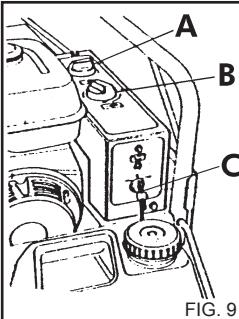

FIG. 9
- 1) For environmental compatibility, we recommend a reasonable use of detergents (fig.9), according to the instructions on the pack.